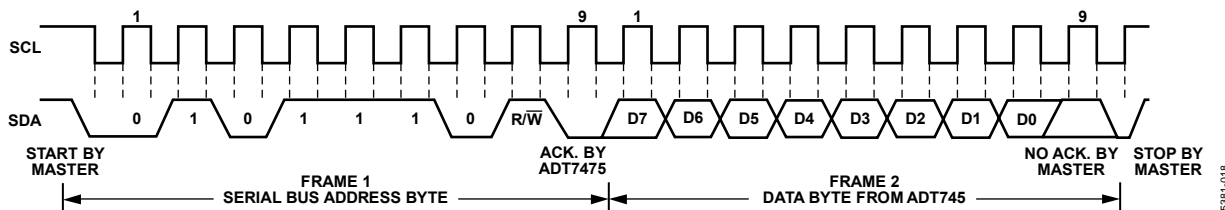

Figure 16. Reading Data from a Previously Selected Register
A read operation is then performed consisting of the serial bus address; $\overline{R/\overline{W}}$ bit set to 1, followed by the data byte read from the data register (see Figure 16).
- If the address pointer register is known to be already at the desired address, data can be read from the corresponding data register without first writing to the address pointer register (see Figure 16).